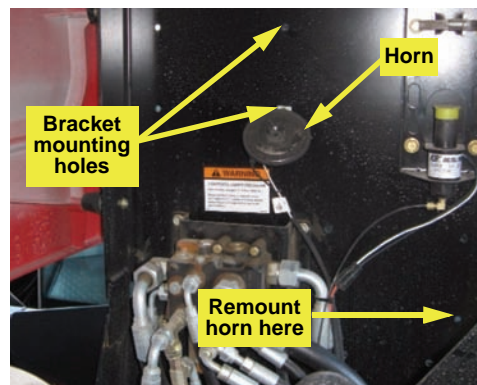

Figure 2a: Steering block and new horn mounting locations
- a. Locate the two bracket mounting holes on the front side of the firewall. Relocate the horn to the mounting hole as shown (Figure 2a).